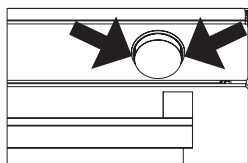
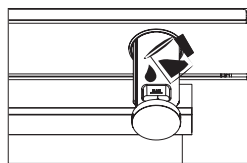
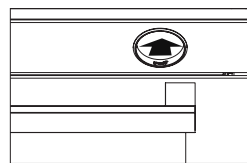

Figure 4
Figure 5
Figure 7
**1.** Remove the water container by pulling it out at the points indicated by the arrow. Fill the water container (see figure 4) and slide it in the direction of the arrow to the starting position to put it in place (see figure 5,6). After 10 minutes of preheating, slide the water container in the direction of the arrow until you hear a "click" (see figure 7).